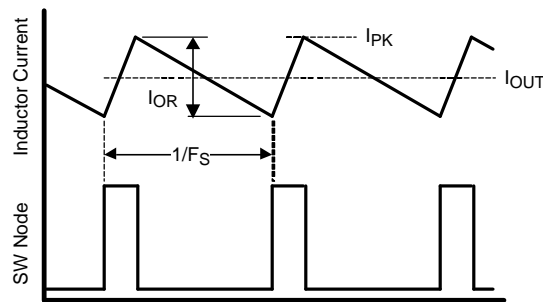

Figure 27. Inductor Current Waveform
- **L1:** The main parameter controlled by the inductor value is the current ripple amplitude (I_{OR}). See Figure 27. The minimum load current for continuous conduction mode is used to determine the maximum allowable ripple such that the inductor current's lower peak does not fall below 0 mA. Continuous conduction mode operation at minimum load current is not a requirement of the LM25085A, but serves as a guideline for selecting L1. For this example, the maximum ripple current is: